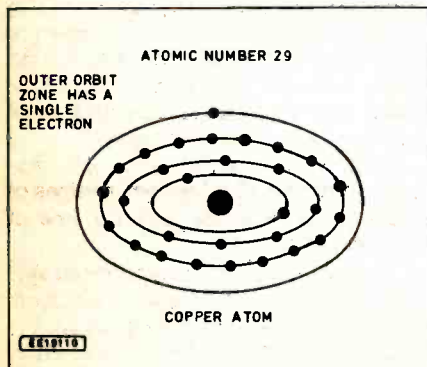

Fig. 7.5. The copper atom.
The orbit path of particular interest to us in our investigation of what determines a material's resistance is the outermost orbit path. The fewer electrons in this "farthest away from the nucleus" zone, the better a conductor the material becomes because of the smaller required energy to part them from their parent atoms. Silver, with only one outer electron orbiting its atoms, requires very little energy to dislodge them. Copper has a similar atomic structure (see Fig. 7.5) and is almost as good a conductor; it also has only one outer electron but a different atomic number (29).